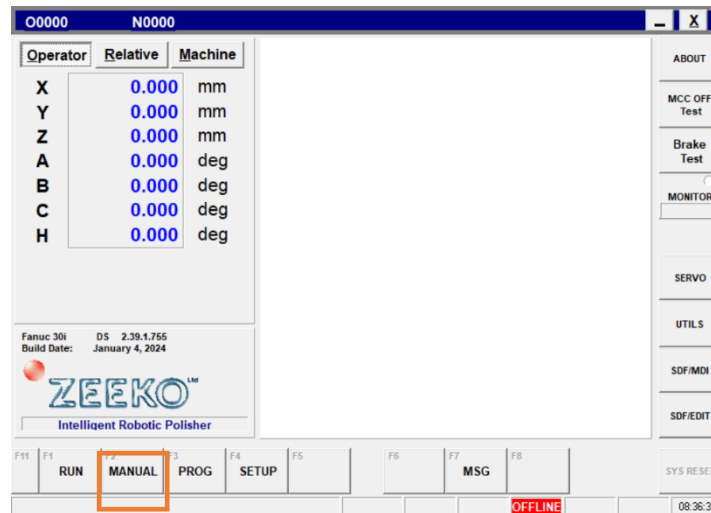
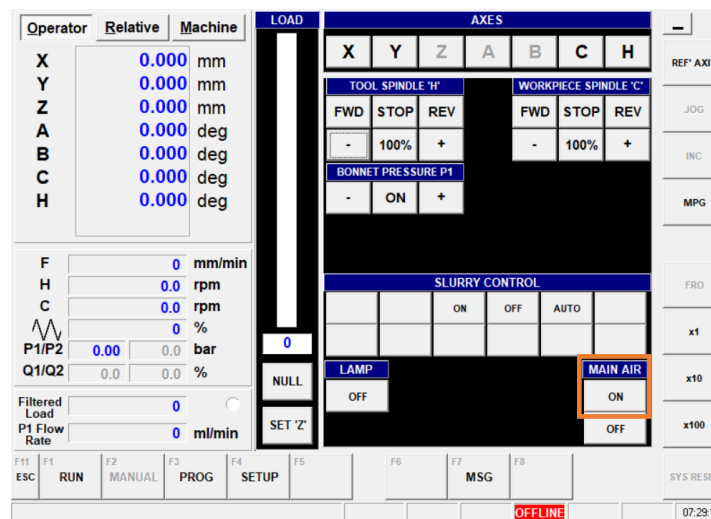

Figure 17 - Manual button on main screen
Figure 18 - Compressed Air ON
2. Switching on the compressed air (Main Air) supply to the machine, is activated from the “Manual” menu in the “Zeeko GUI”. This is done by pressing the “Manual” button from the main screen and then pressing the “ON” button for the main air. See (Figure 17 - Manual button on main screen) and see (Figure 18 - Compressed Air ON).